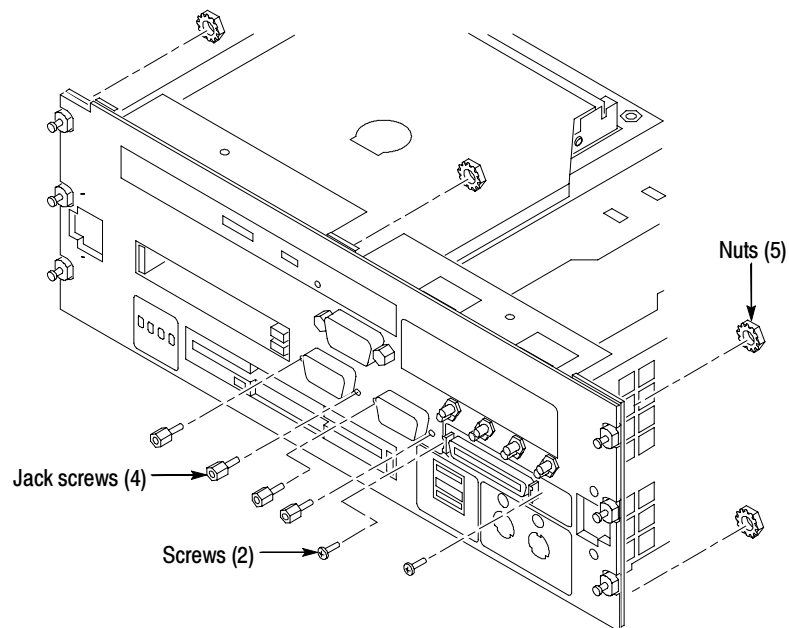

Figure 11: Removing and installing the front panel hardware
2. Using a small, flat-blade screw driver, remove the two screws from the printer port connector on the front panel (see Figure 11).